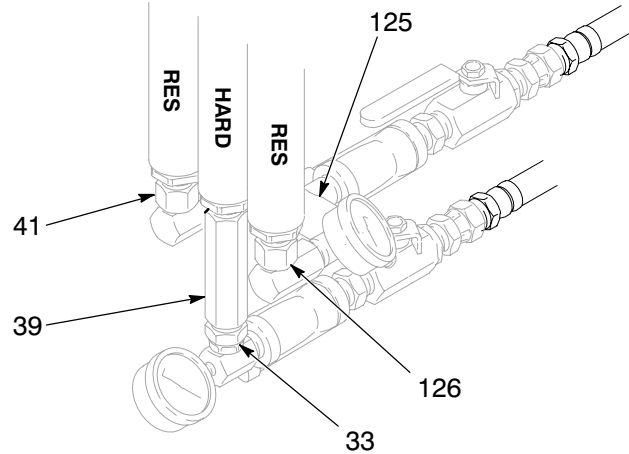

Fig. 18
Unscrew the swivel union (33) from the bottom of the center displacement pump. Unscrew the swivel unions (126) from the outer displacement pumps. Remove the supply manifold (125) from the outer pumps. Unscrew the straight union (39) from the center displacement pump. See Fig. 18.